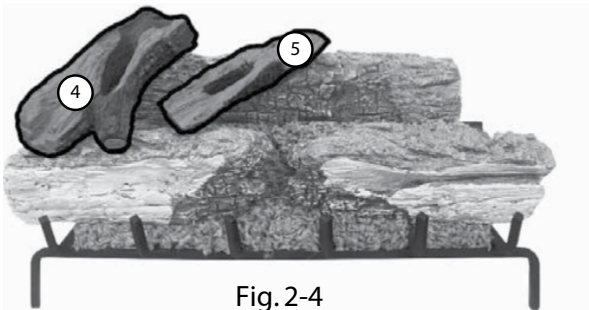

Fig. 2-4
4. Position the middle center log #4 on the left side of the log set, resting on logs #1 and #2 as shown. Position the middle center log #5 in a similar manner (with more of an angle), toward the center of the log set. (Fig. 2-4.)